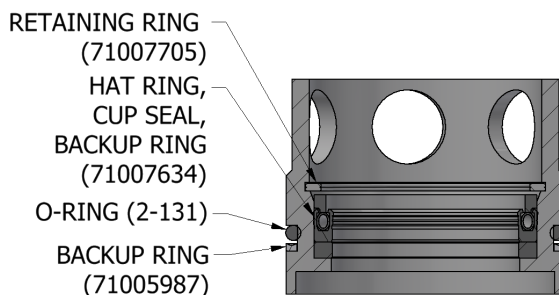

Figure 10 – Seat Retainer Assembly
- 12.15 Install the backup rings so that the contour faces the O-ring. Install the replacement backup rings and O-rings per Figure 10.
- 13.2 Carefully remove the seat (see Figure 10). – *Brass hooked probe*